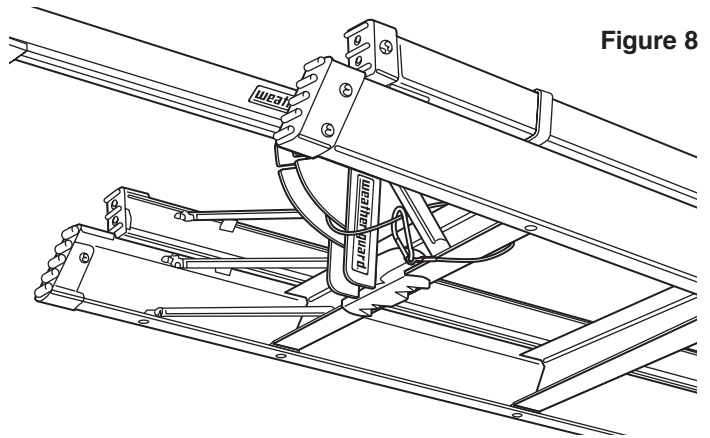

Figure 8
9. Loop the safety cable around the bottom step and clip it back on itself as shown in Figure 8. Always attach the safety cable around a step. Other parts of the ladder may not be strong enough to hold the ladder in a vehicle accident.